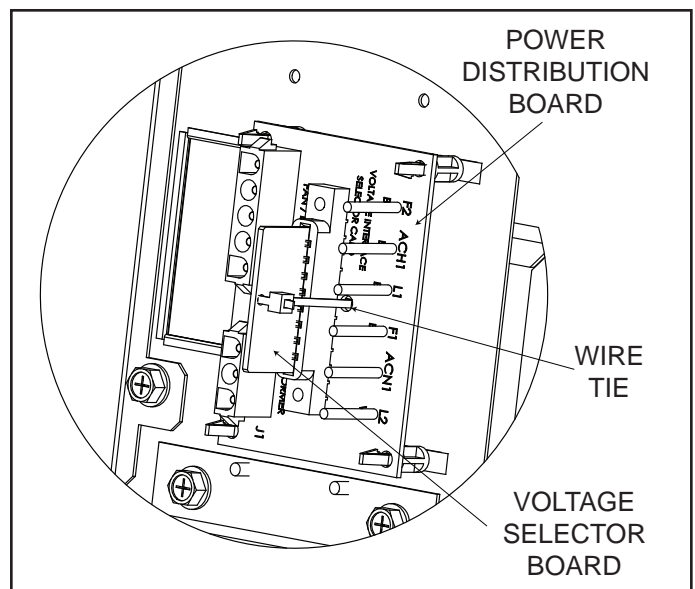

Figure 23. Power Distribution Board With Voltage Selector Board Installed for 240 VAC
2. Cut the plastic wire tie that is holding the voltage selector board in place and discard the wire tie. Unplug the voltage selector board from the receptacle. See Figure 23.